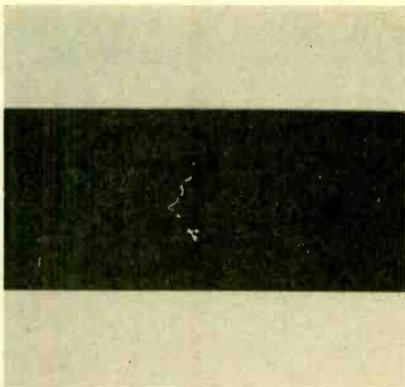

Fig. 2. Two of the three samples of Mustang Super High Grade tape had seriously damaged sections of tape.
**Mustang Super High Grade.** Two of the three samples tested had seriously damaged sections of tape. (See Fig. 2.) Furthermore, one sample's tape broke while playing in the VCR and had to be repaired before it could be tested. Another sample's damaged tape section had to be removed before testing could be completed.